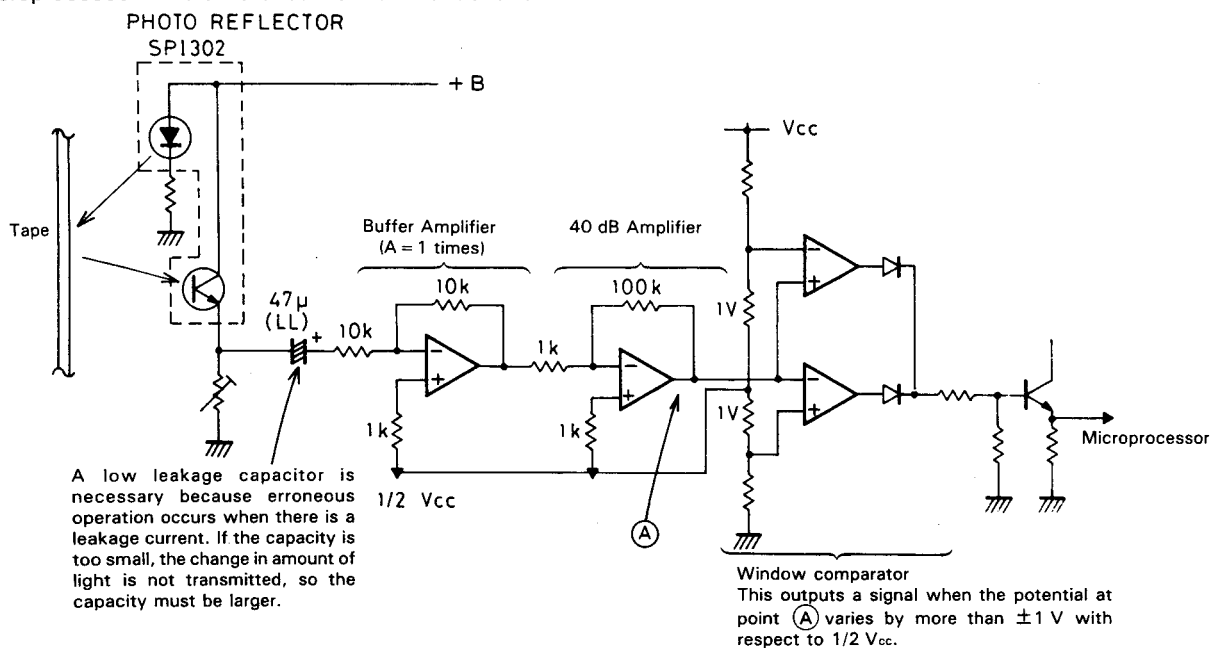
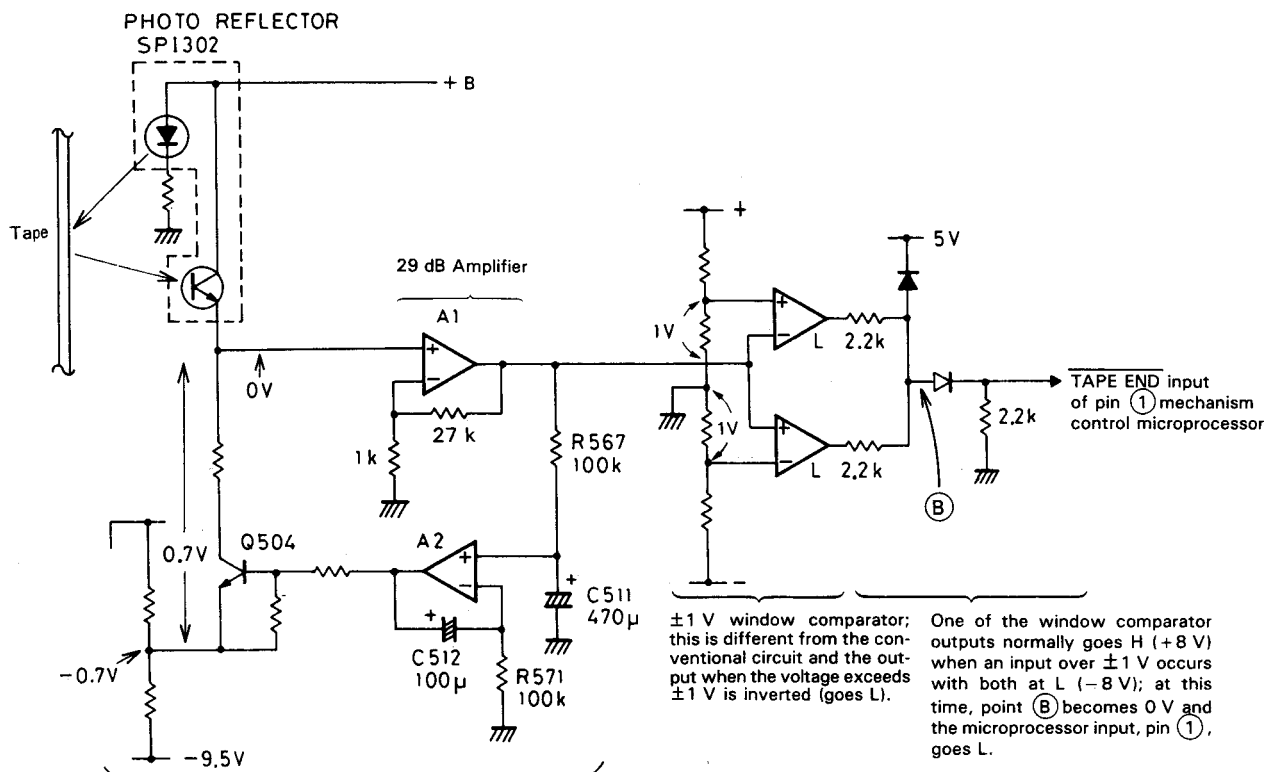

Fig. 4 Conventional quick reverse circuit
Fig. 5 Quick reverse detection circuit in the DD-VR77
- o The PWM signal divides 5.12 ms into 256 pulses as shown in Fig. 4 and it obtains control voltages with a maximum width of 256 pulses.
cuits is that, with this construction, it is not necessary to adjust the sensitivity of the phototransistor. Fig. 4 shows the conventional circuit and Fig. 5 that used in the DD-VR77.